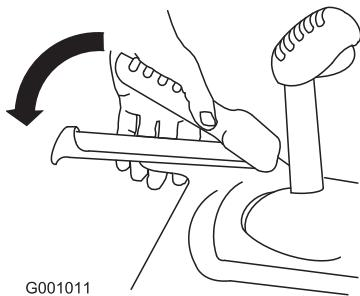

Figure 38
2. Engage the traction lever and hold it in place (Figure 38).